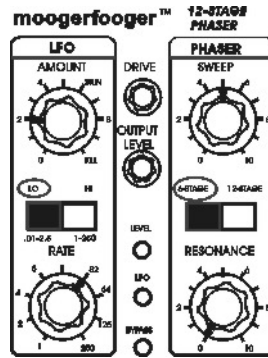

Figure 2 - Basic settings for becoming familiar with your MF-103.
6. Now set the MF-103 panel controls as follows (See Figure 2):